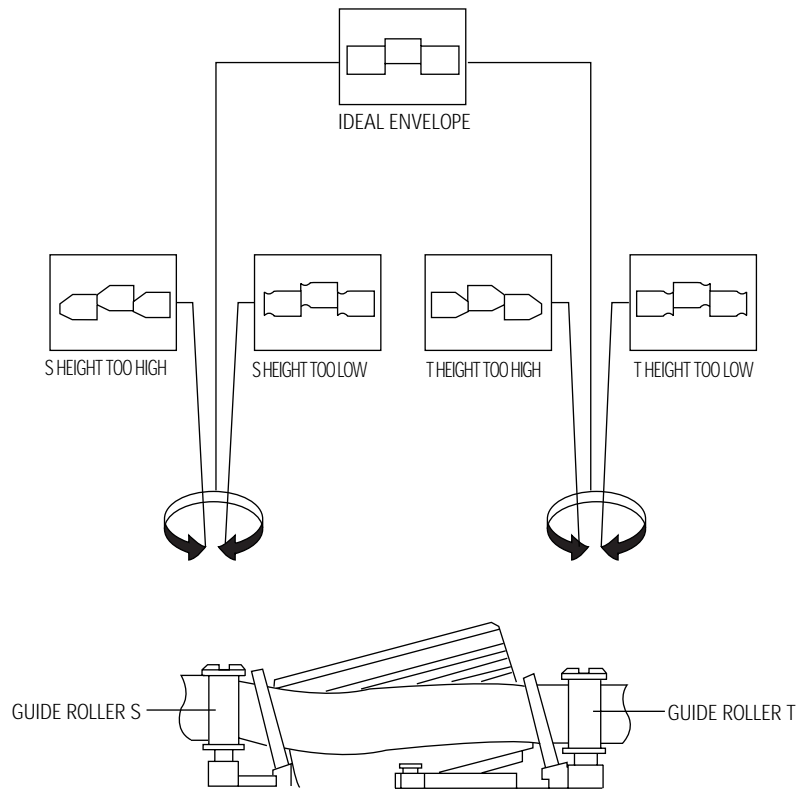

Fig. 6-13 Guide Roller S, T Height Adjustment
- 8) Turn the guide roller heads with a flat head () driver to obtain a flat video RF envelope as shown in Fig. 6-13.